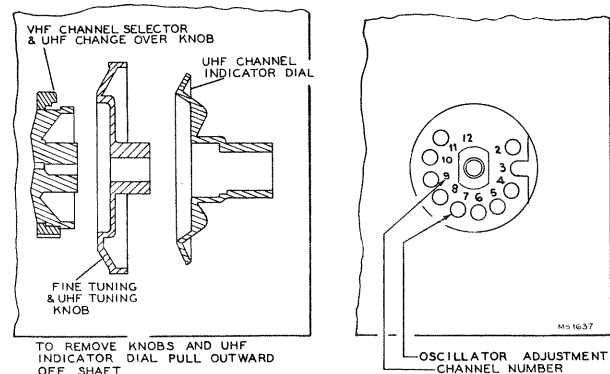

Figure 3—VHF R-F Oscillator Adjustment
14. The adjustments for channels 2 through 12 are available from the front of the cabinet by removing the knobs and station selector escutcheon as shown in figure 3. Adjustment for channel 13 is on top of the chassis. The oscillator for the UHF section of the tuner should be adjusted by the method outlined on page 15 under Alignment Procedure.